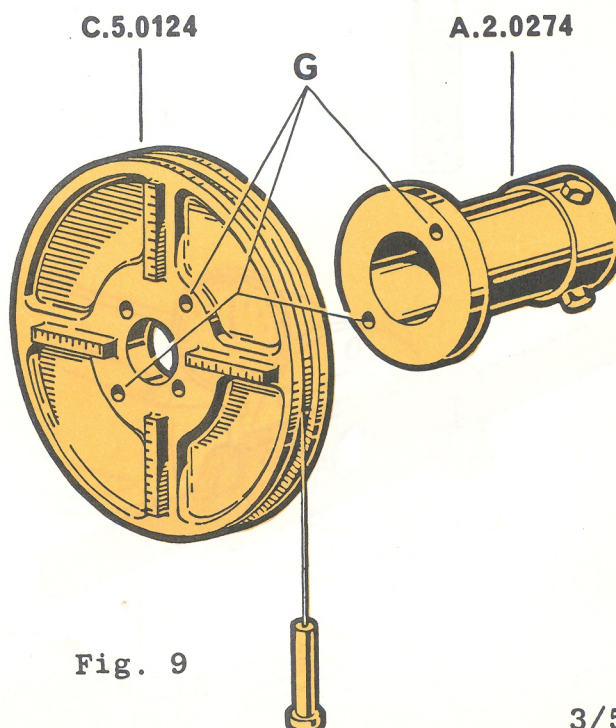

Fig. 9
- 9** On the Alfasud model, in order to check the torque to turn the pinion shaft, fit the adaptor A.2.0274 to the tool C.5.0124 and secure them together with the screws "G". See fig. 9.